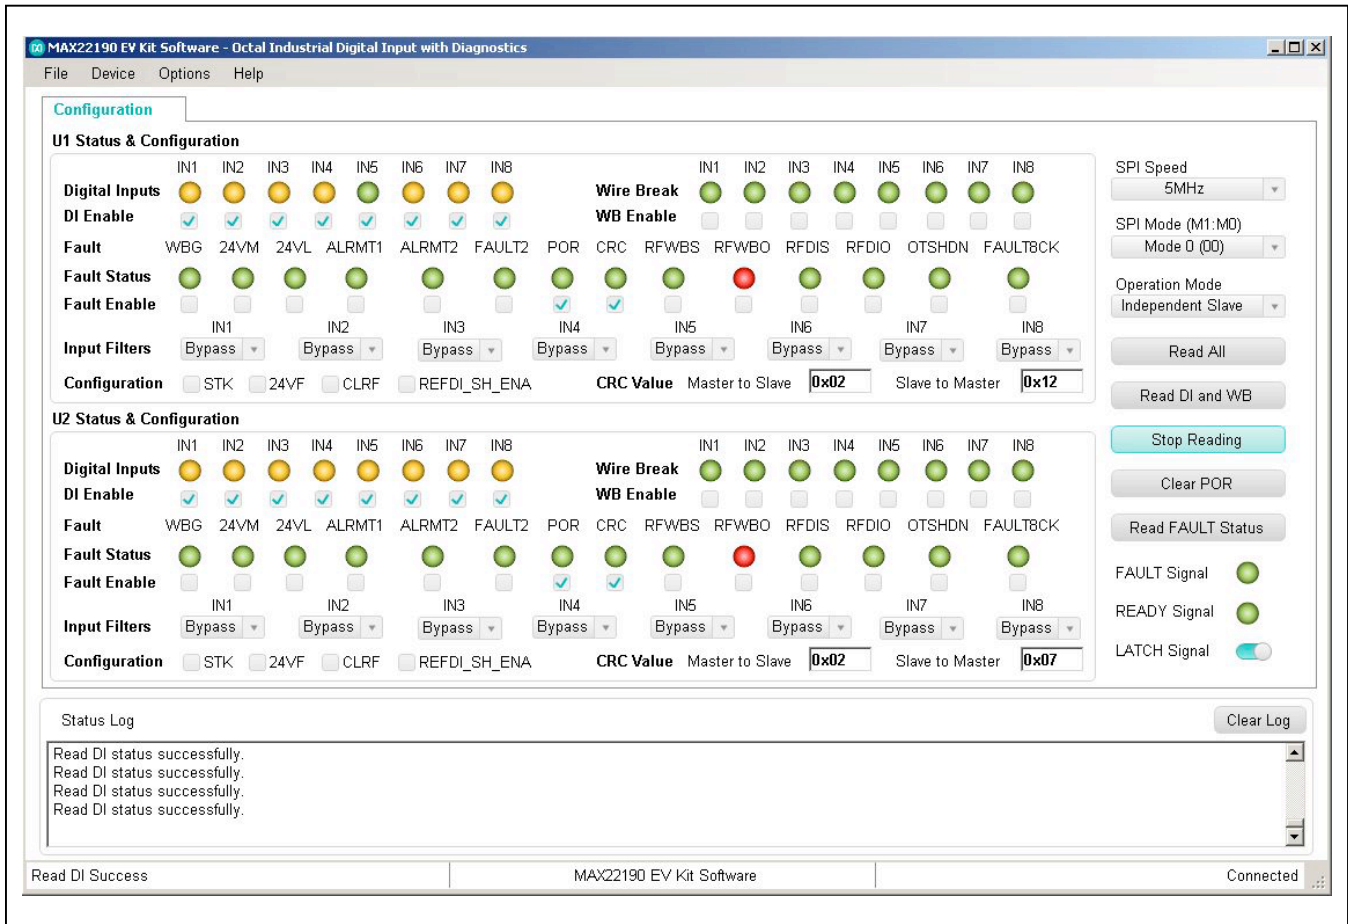

Figure 4. MAX22190 EV Kit Software—Read DI Continuously
- 15) Click **Read DI Continuously** button. The EV kit software reads the U1 and U2 DI registers continuously. Connect the 24V DC voltage to one of the input test points, for example, test point U1_IN5. The corresponding **Digital Inputs** status light **IN5** is changed to green from yellow to indicate U1 channel IN5 is high as shown in Figure 4.